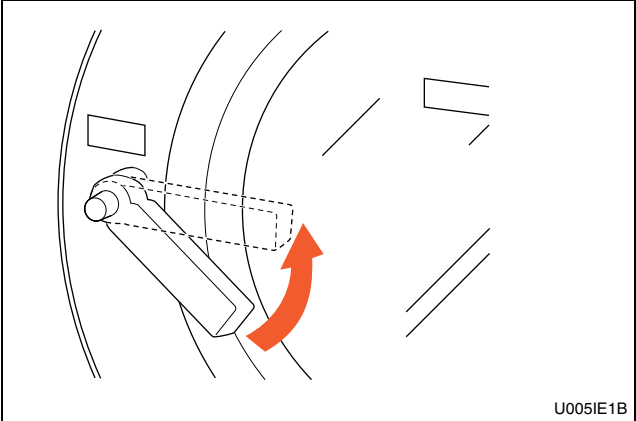

Figure 27
- 4. Close door and turn handle counterclockwise until button pops out. Refer to *Figure 27*.